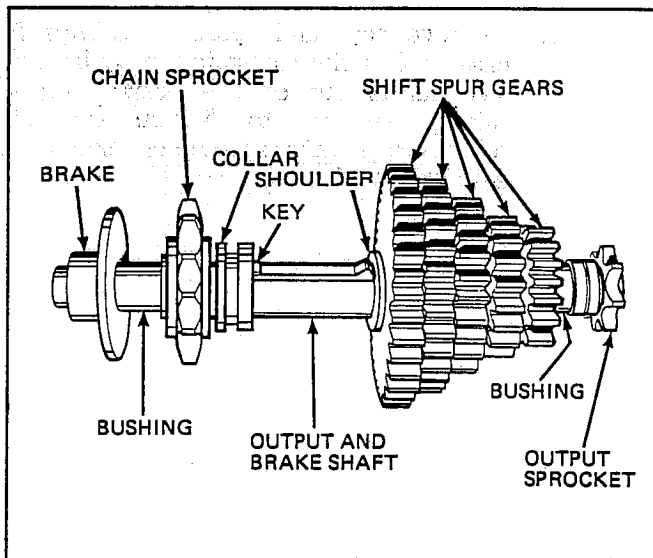

Figure 2-47
8. Remove the output sprocket and brake disc from the output shaft. Remove the bushings, shift spur gears, chain sprocket, collar and keys. See Figure 2-47.